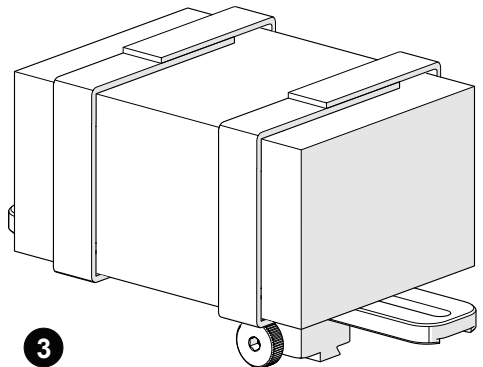

Fig. 85 - Mount bracket on a frame bar
3. Secure the preamp to the bracket, attaching each side of the velcro (*Fig. 85*).